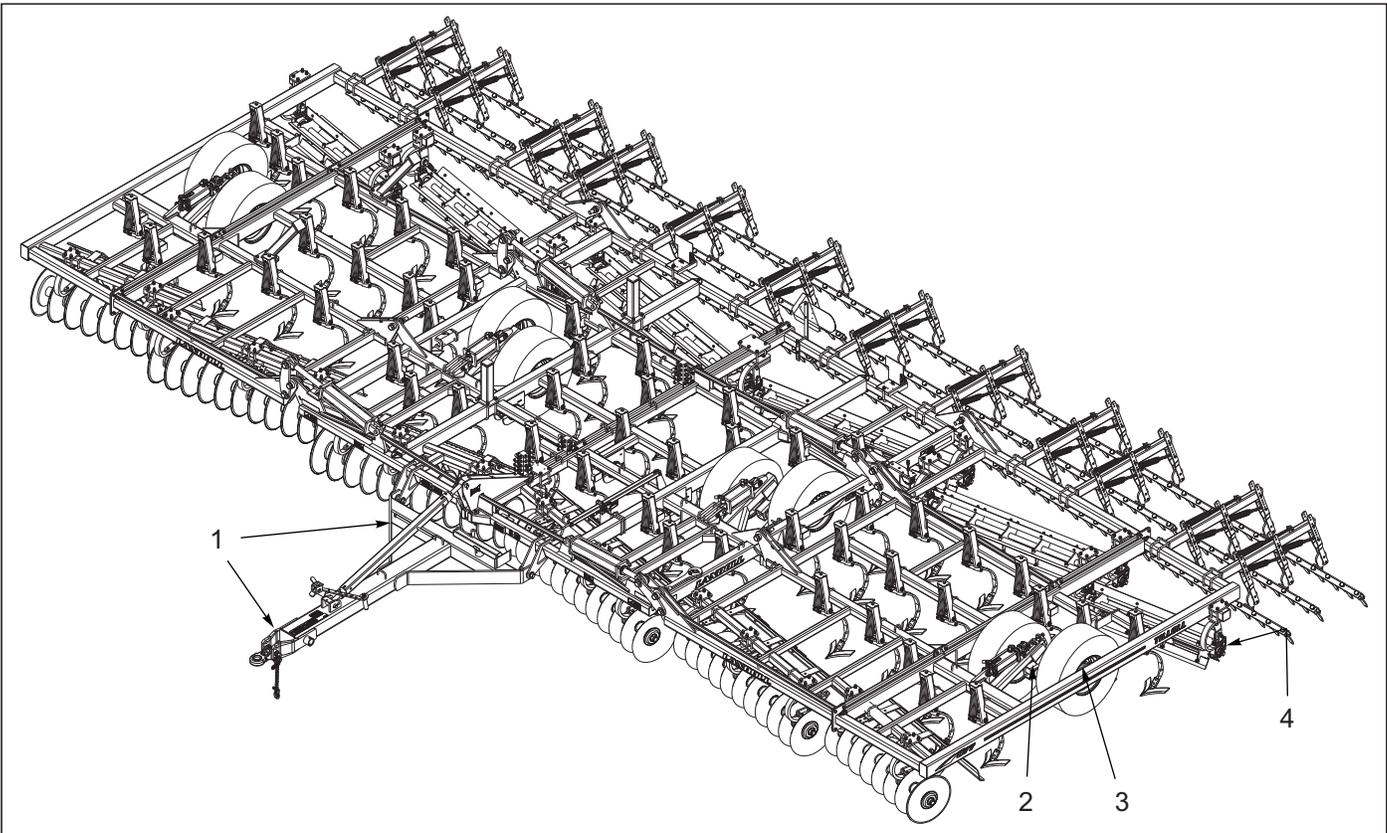

Figure 4-17: Lubrication Schedule
1. A proper maintenance schedule will insure a long operating life and peak performance. Performing the following lubrication will ensure maximum operating life of the 877 Tilloll *See Table 4-1 and See Figures 4-17.*
- f. Lubricate each point of the machine as stated in See Figures 4-17.